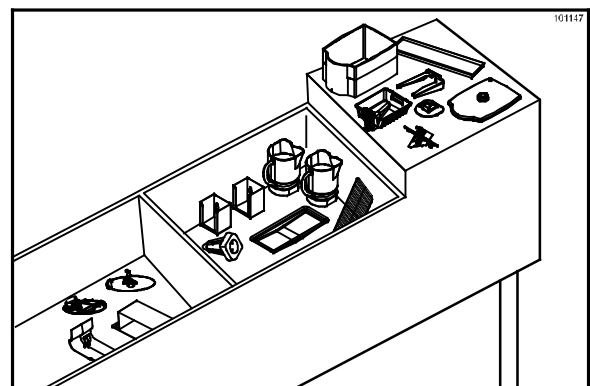

Figure 74
- Wash the parts in a hot, approved cleaning solution. **Note: Do not place the parts in the power soaker sink or dishwasher.** (See Figure 74.)